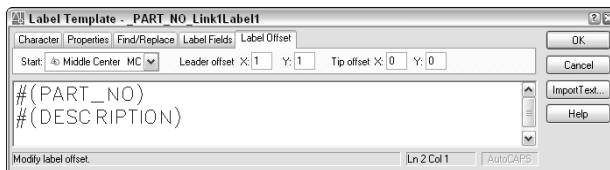

Figure 20-17: The Label Offset tab of the Label Template dialog box.
6. Click the Label Offset tab, shown in Figure 20-17. This tab defines the placement of the label and the leader that connects the label with the object. In the Start drop-down list, choose a justification. This defines where on the object AutoCAD places the tip of the leader.